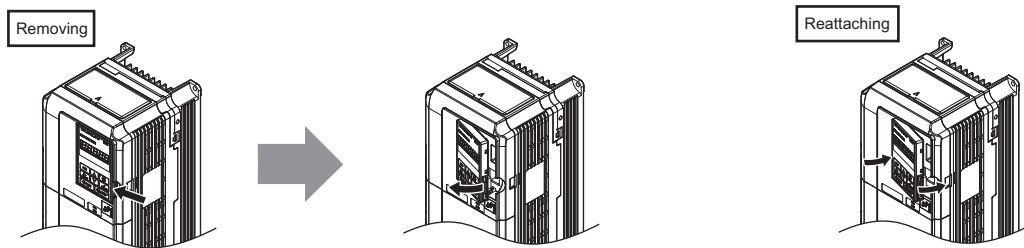

Figure 3.14 Removing/Reattaching the Digital Operator
4. Unhook the left side of the front cover then swing the left side towards you as shown in Figure 3.14 until the cover comes off.